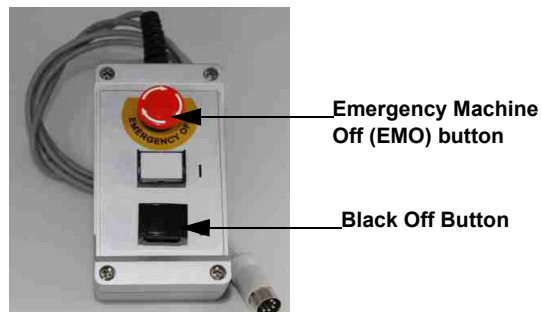

Figure 3-5: Red EMO and Black Off buttons on the EMO box
- 2 Press the black OFF button on the EMO Box (see Figure 3-5). This shuts off power to all system devices but the computer, monitor, power supply adapter, and 24 VDC control circuit in the EMO Box.